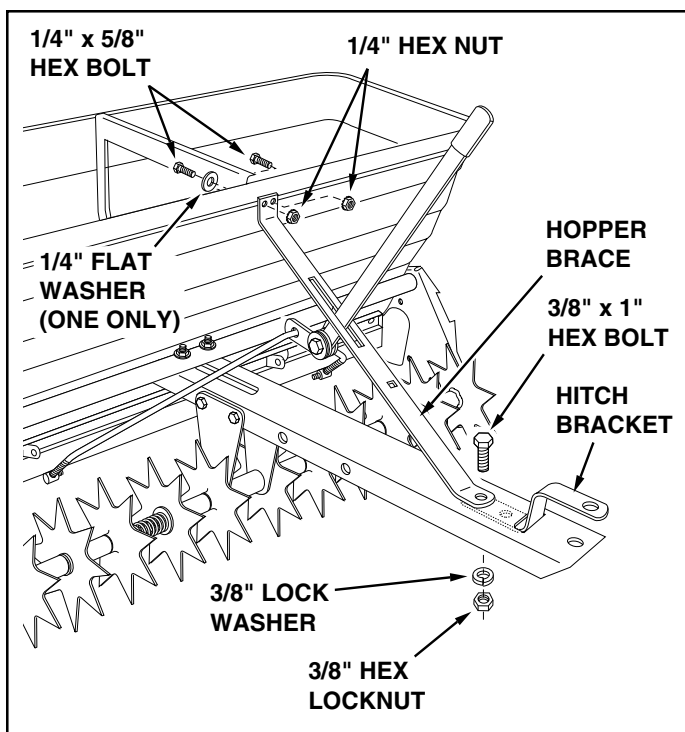

FIGURE 4
8. Attach the hopper brace to the hopper using two 1/4" x 5/8" hex bolts, one 1/4" flat washer and two 1/4" hex nuts. **Do not tighten yet.** See figure 4.
9. Place the end of the hitch bracket with two holes down through the slot in the tongue. Attach the hopper brace to the top of the tongue and the hitch bracket to the bottom using one 3/8" x 1" hex bolt, 3/8" lock washer and 3/8" hex lock nut. **Do not tighten yet.** See figure 4.